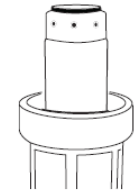

Figure 7
10. Place filter into housing. (See Figure 7). Align housing to filter head and screw onto filter head. Tighten with wrench to seal.